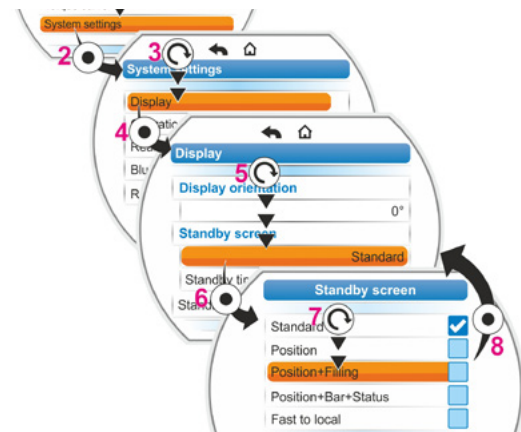

Fig. 5: Select standby screen
1. Perform steps item 1 to item 4, as described in the previous chapter, 'Display orientation'.
2. Set selection marker for 'Standby screen' to 'Standard' (fig. 5, item 5) and confirm (item 6).